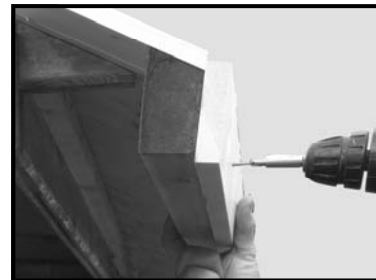

Fig I5
9. Fit the 19x70mm eaves edgings onto the roof edgings (**Tiles only**). Place a floor board on top of and over the edge of the roof and place the top of the roof edging level with this (fig I5) and fix with 40mm screws at 400mm spacing's.